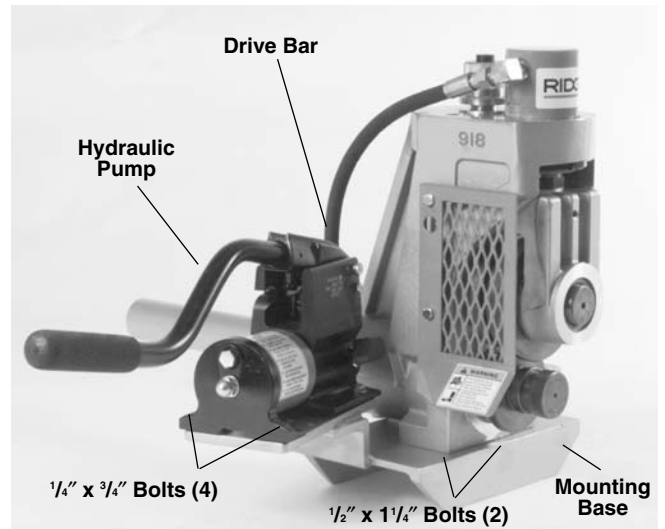

Figure 7 – 918 Roll Groover on 535 Threading Machine Mounting Base
1. Position 918 Roll groover on the mounting base as shown. (Figure 7)
2. Install and tighten the (2) 1/2" x 1 1/4" hex bolts which connect 918 to mounting base.
3. Position hydraulic pump and securely bolt in place with (4) 1/4" x 3/4" hex bolts.
4. Attach drive bar adapter to roll groover by tightening two (2) set screws.